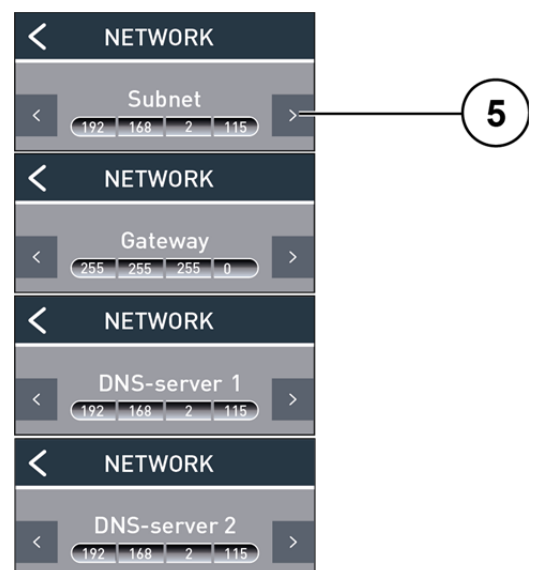

Fig. 20: Changing addresses
- Tip the *Scroll-Forward-Button* **(5)** to change the address of the *Subnet*, the *Gateway*, the *DNS server 1* and *DNS server 2* (Fig. 20).